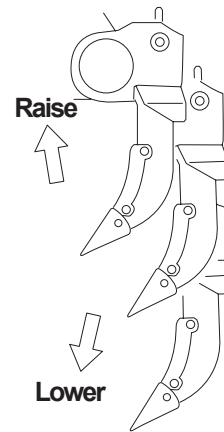

Figure 2-15a
The control lever is normally in the fixed position (2). When the control lever is pulled to position (1), the ripper is raised (Figure 2-15a); and when it is pulled to position (3), the ripper is lowered.